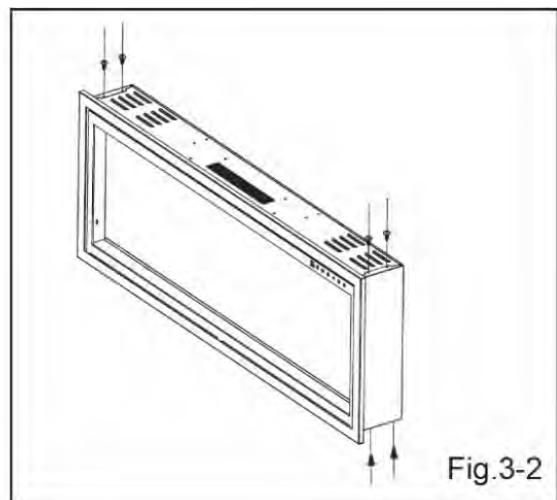

Fig.3-2
- Install the side skirt panels (**D**) to each side of firebox. FIG 3-2.